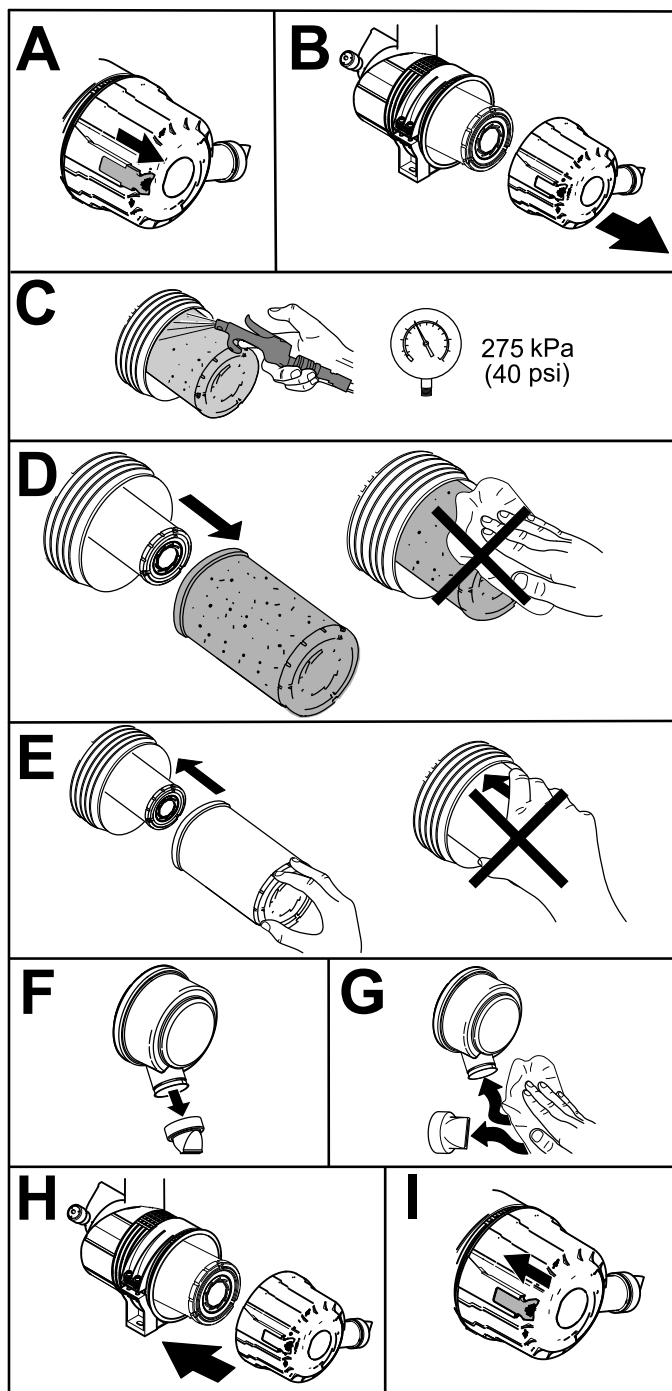

Figure 45
1. Replace the air cleaner (Figure 45).